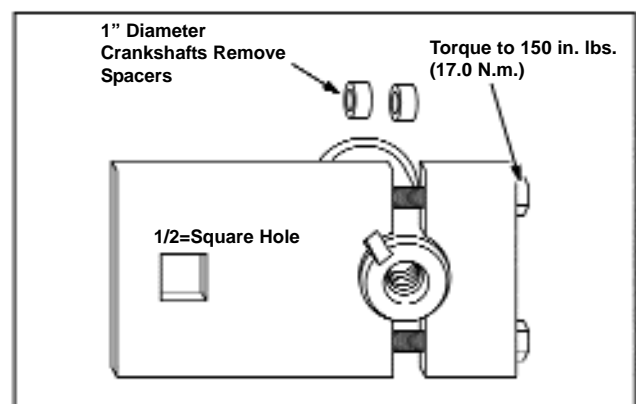

Figure 82 - Installing Clamping Tool
4. Assemble clamping tool from Leak Down Tester Kit on crankshaft. Torque screws to 150 in. lbs. (17.0 N.m.). Insert drive end of 1/2 inch drive breaker bar into square hole in clamp. See Figure 82.